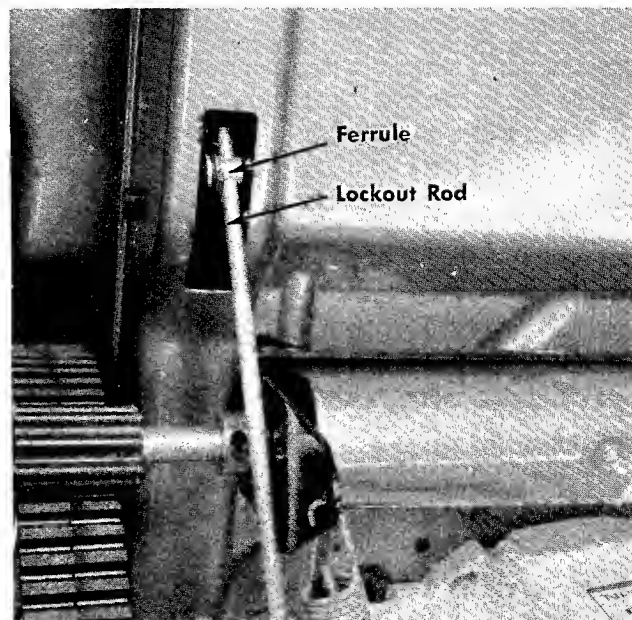

FIGURE 5
11. Remove the cotter pin from the ferrule on the deck. Put the hooked end of the lockout rod through the hole on the front of the handle panel and screw the lockout rod into the ferrule until approximately 1 1/4 inches of thread extend through the ferrule. See figure 5.